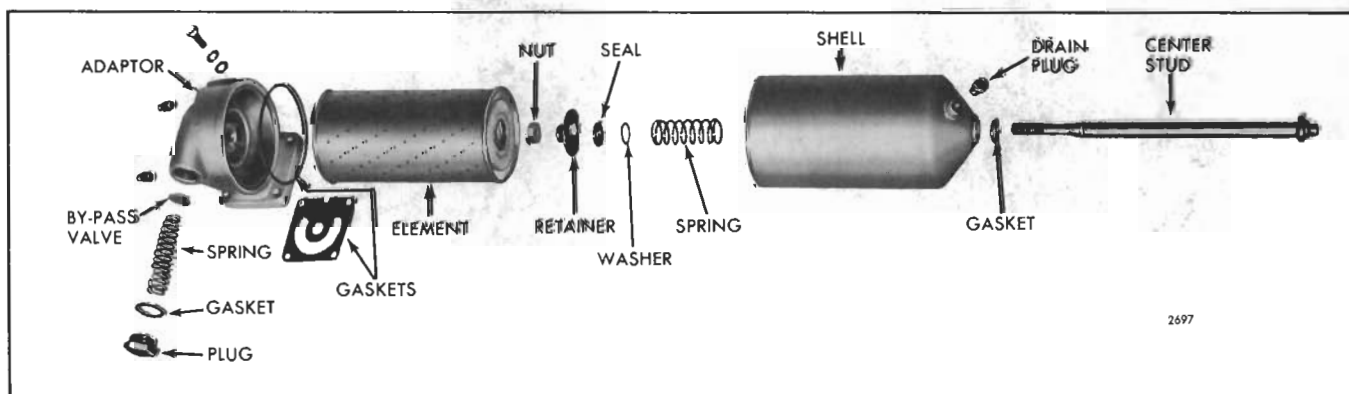

Fig. 4 - Full Flow Oil Filter Details and Relative Location of Parts
5. Remove and discard the element retainer seal (Fig. 4). Install a new seal.